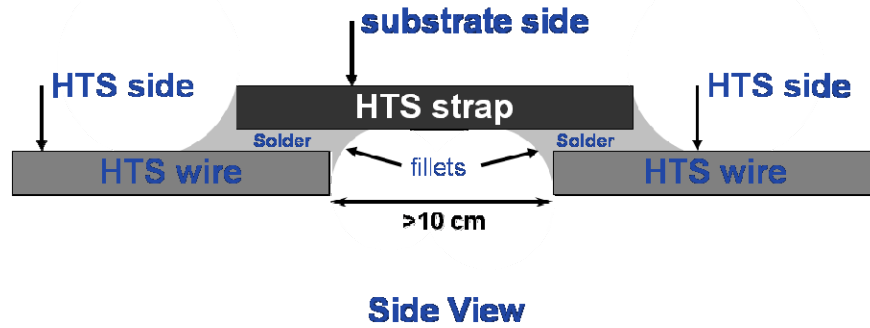

Figure 6. Strap Splice Construction
The second type of field joint for 2G superconductor tapes is a double overlap joint or strap splice, as shown in Figure 6. This geometry maintains the HTS orientation in the joined wires by utilizing a short piece of wire to bridge the two wire lengths at the joint. The strap wire is simply a short section of the same type of wire being joined and is soldered with its low resistance side contacting the low-resistance sides of the two longer lengths (i.e., HTS-to-HTS orientation for all joints). For the best mechanical performance, it is recommended that the gap between the two wires beneath the strap be at least 10 cm. As a guide for expected electrical performance, typical resistance values of a variety of symmetrical, 10 cm gap strap splices are provided below in Table 2.
- i) Ensure that end of each of the tape ends is filleted by solder (as shown in Figure 6) to help prevent separation during bending operations.